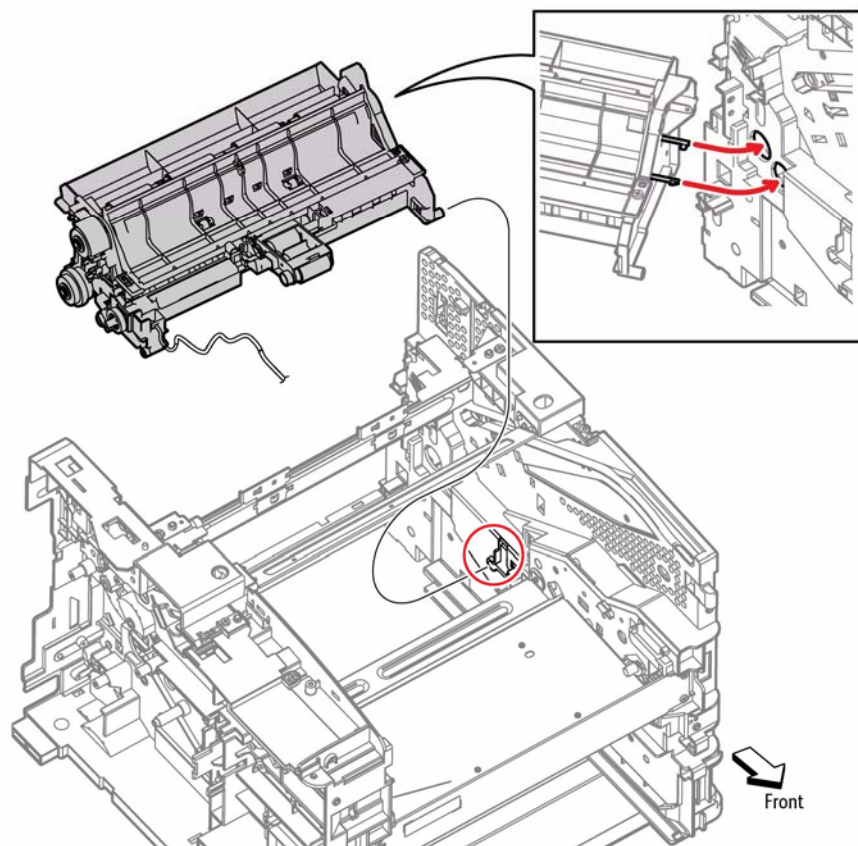

Figure 6 Install the Transport Assembly
1. Refer to Figure 6 to locate the registration acutator openings in the chassis. Carefully inset the actuators into the openings during installation. Seat the Transport Assembly boss on the chassis support as shown.